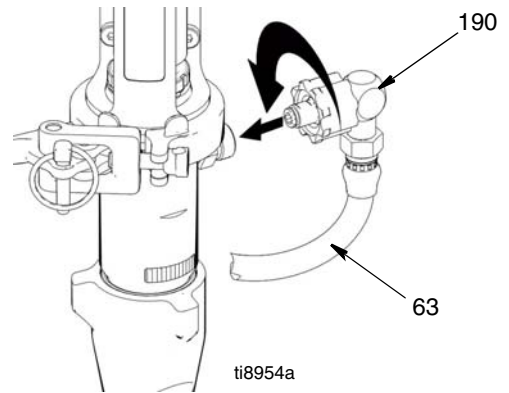

FIG. 26
7. (Fig. 26) Open clamp and align pump outlet with hose fitting (190). Install paint hose fitting (190) and paint hose (63) to pump connection, close clamp.